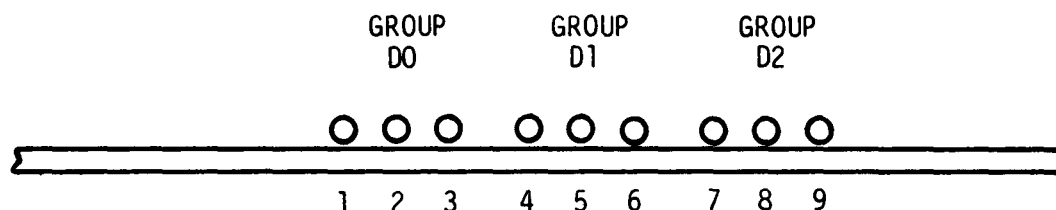

Figure 4-1. Memory Controller Board Group Error Indicators
d. Different combinations of indicators lit on the front edge of the memory board (fig. 4-1) indicate the adapter pac status and the type of error (fatal or nonfatal).